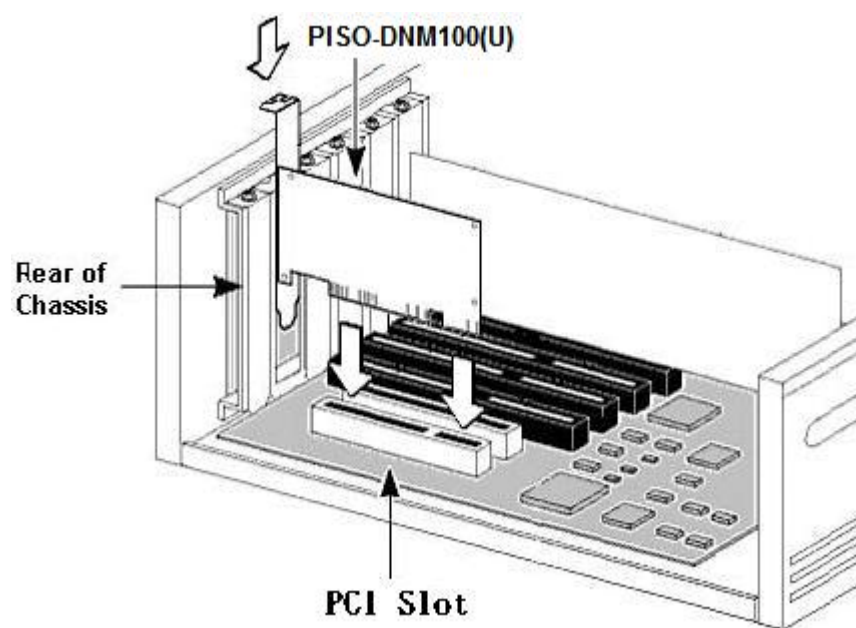

Figure 2.5 PISO-DNM100(U) installation
4. Find an empty PCI slot for your PISO-DNM100(U)-D/T on the mother board of the personal computer. Plug the configured PISO-DNM100(U)-D/T into this empty PCI slot. See figure 2.5.